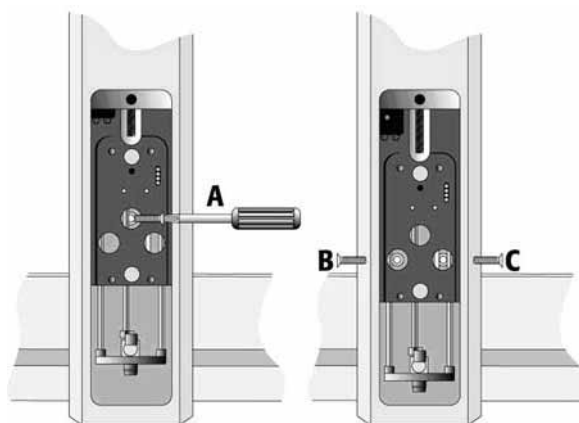

Fig. 13: Inserting the injection unit Torx screws
- f) Insert and tighten the remaining Torx screws B and C, respectively (→ Fig. 13). To insert the screw C into the related hole, you might have to move the elastic cord slightly to the left.